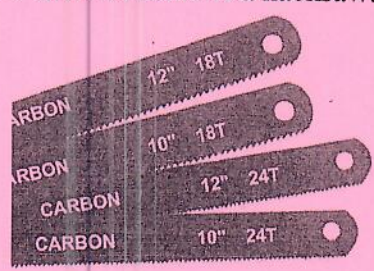

Figure 5 Key information on hacksaw blades
f) Figure 5 shows blades of a hacksaw.